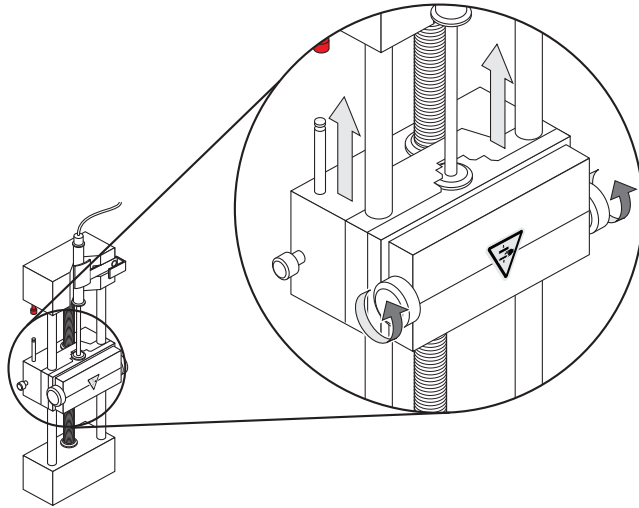

Figure 1-6 Syringe pump
3. Turn the side screws as shown in Figure 1-6 Syringe pump on page 9 to secure the syringe.